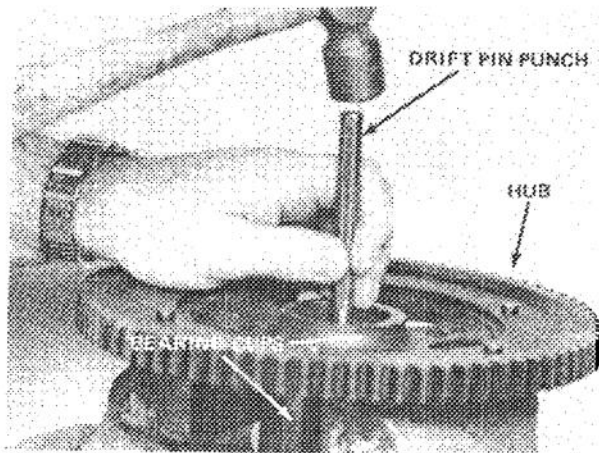

Figure 24
7. Use a drift pin punch to remove bearing cups from hub (Fig. 24). Note: Access is provided in the bore for drift pin punch.